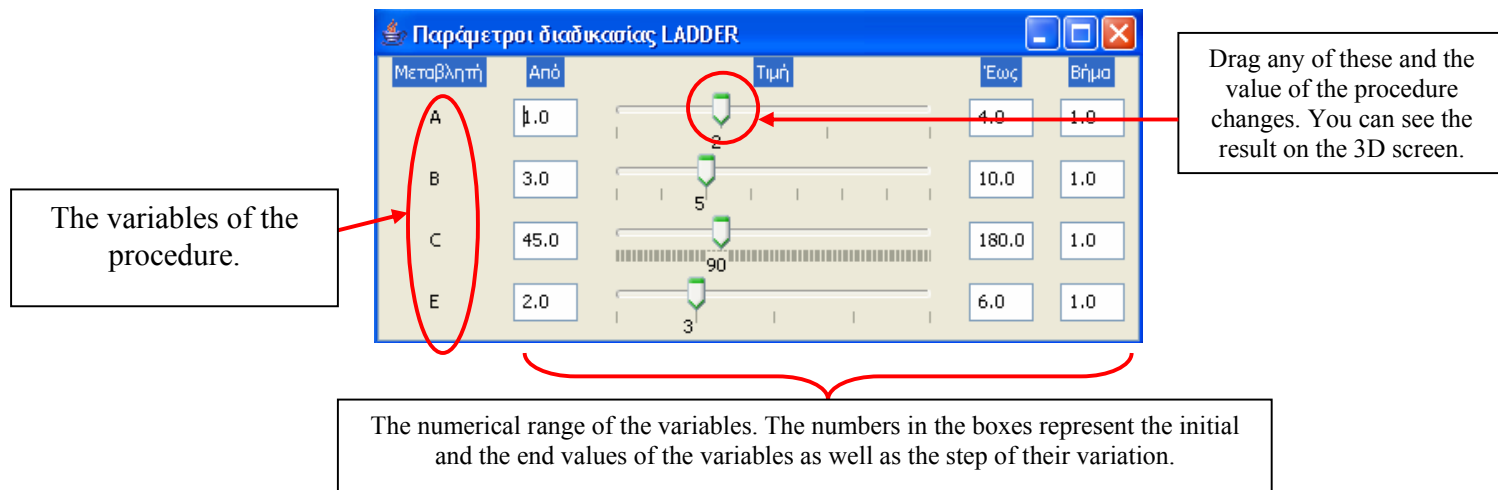

Figure 2. The 1dVT.
- *Uni-dimensional Variation Tool (1dVT)*. This component provides means to handle and represent variation of variable values in MaLT. The main part of this component consists of 'number line'-like sliders, each corresponding to one of the variables used in a Logo procedure. 1dVT is thus energized only when the user defines a Logo procedure, run it for a specific value for each variable and then click on any part of the figure (Figure 2). In the first version the menu is only in greek but all the available commands in english.